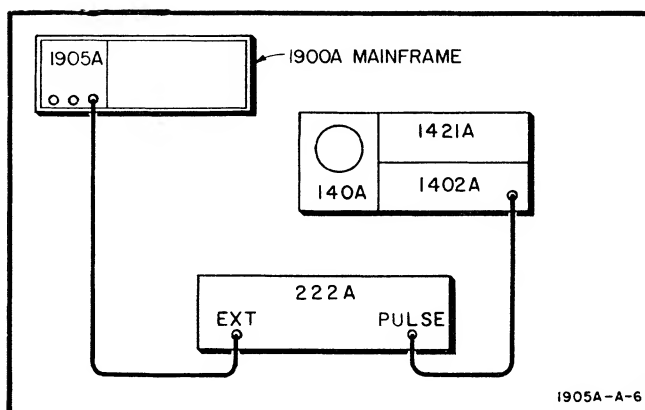

Figure 5-5. Internal Repetition-rate Test Setup
- Remove the Model 1410A/1425A plug-ins from the Model 140A mainframe and install the Model 1421A and 1402A plug-ins. Connect the equipment as shown in Figure 5-5.